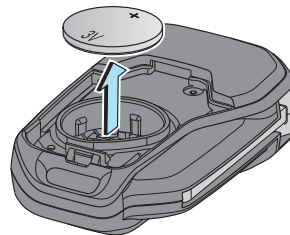

Fig. 14
- Take out the battery to replace (ref. Fig. 14).